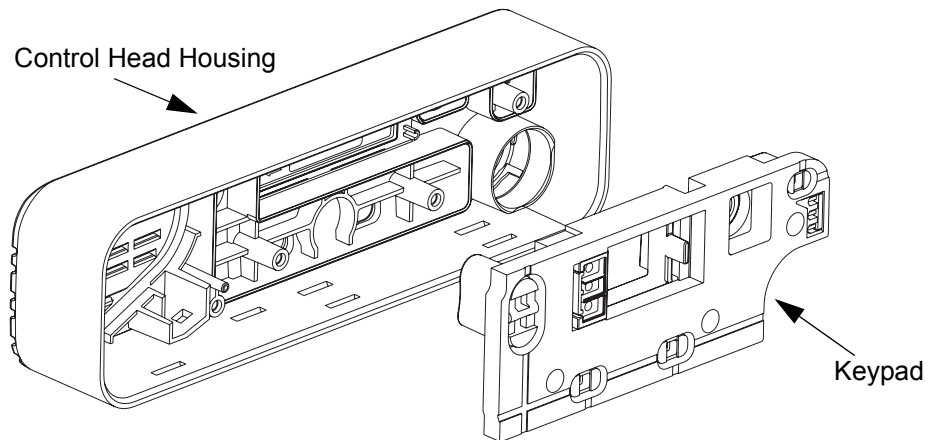

Figure 5-33 Keypad Assembly
2. Assemble the keypad in the control head housing making sure to align the keys with the openings in the control head housing. Refer to Figure 5-33.